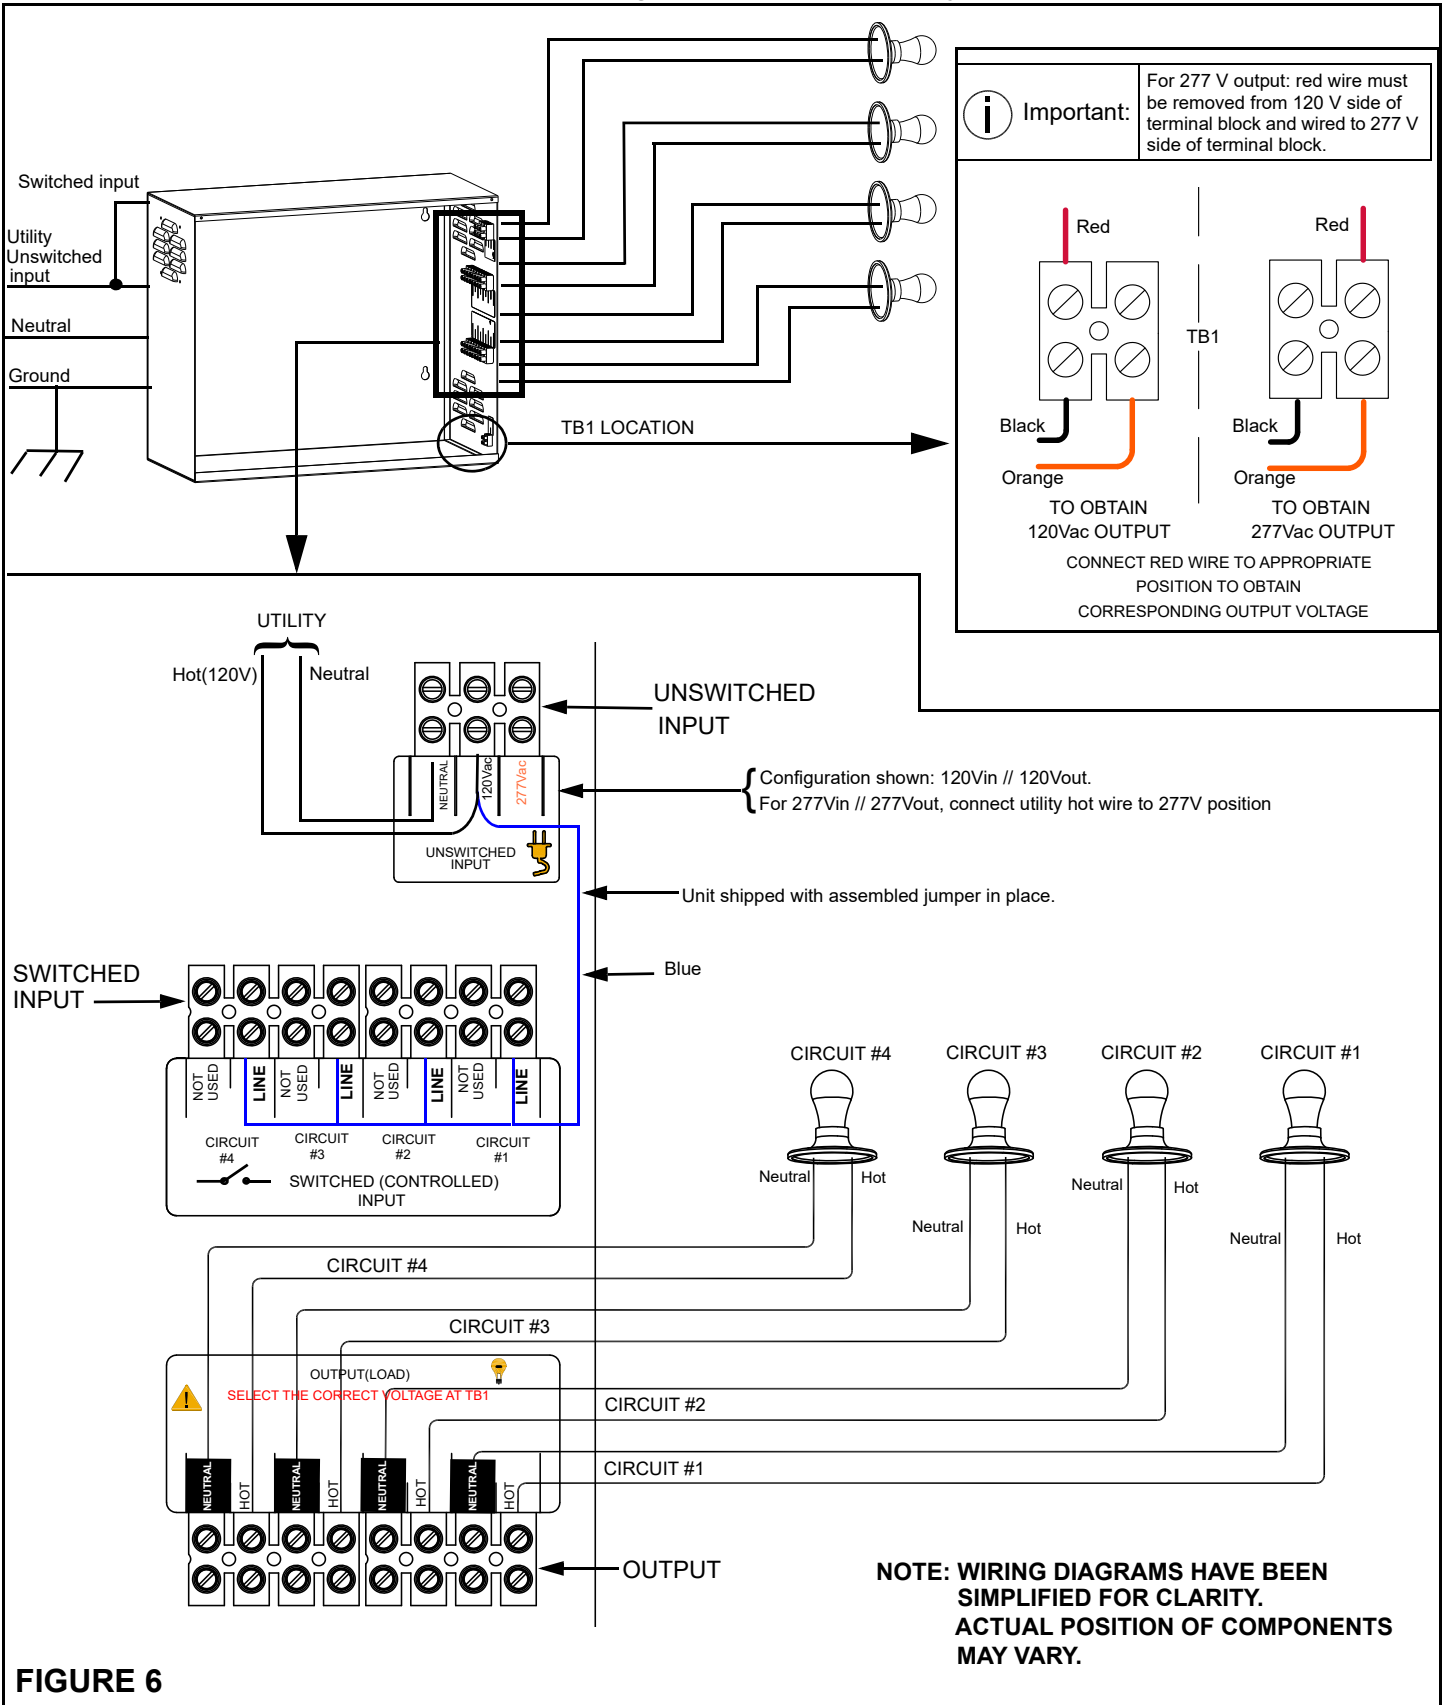

FIGURE 6
- b. Identify the terminal block for UNSWITCHED INPUT (figures 6, 7, 8 or 9).
- a. **Normally-On Operation** (Refer to Figure 6 for wiring details) - Fixtures remain illuminated in normal AC and emergency modes.
Refer to the applicable wiring diagram in figures 6, 7, 8 and 9 to connect the utility AC power and external control devices (where applicable). Perform all wiring procedures in accordance with applicable codes. The unit is shipped configured to operate in Normally-On mode by using an assembled jumper. This jumper can be removed to configure the SWITCHED INPUTS as desired.
- c. Identify output terminal block (refer to figures 6, 7, 8 and 9).